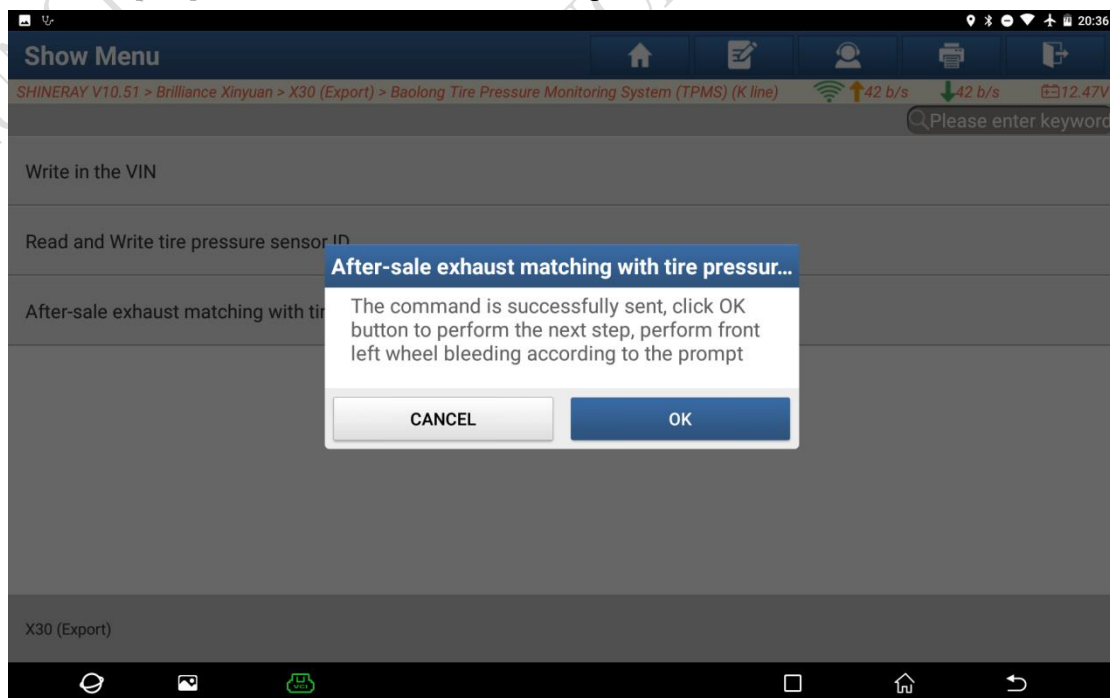

Figure 9
9. Click [OK] to continue, as shown in Figure 9.